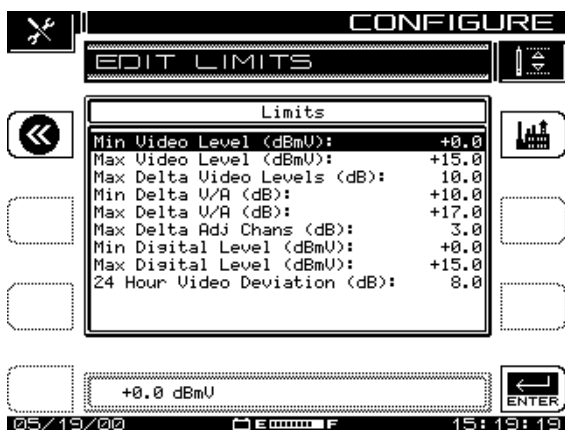

Fig. 3-13 The Edit Limits Screen
1. From the CHANNEL PLAN menu shown in Fig. 3-2, scroll to the Edit Limits item and press the Continue soft key. The screen shown in Fig. 3-13, EDIT LIMITS, appears.